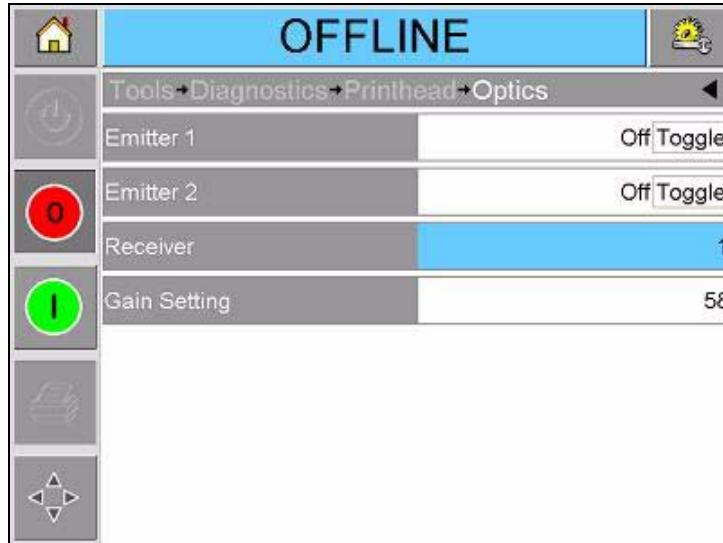

Figure 5-51: Printhead Diagnostics - Optics
The receiver signal level (Figure 5-51 on page 5-34) should be fluctuating slightly with a reading typically less than 30 (under normal office / factory lighting conditions).
- 5 Using a battery-powered torch, shine the beam at the receiver assembly mounted in the slot directly behind the printhead. The receiver reading (Figure 5-51 on page 5-34) should increase significantly, (in the range of 500-1023) indicating that the receiver is working correctly.